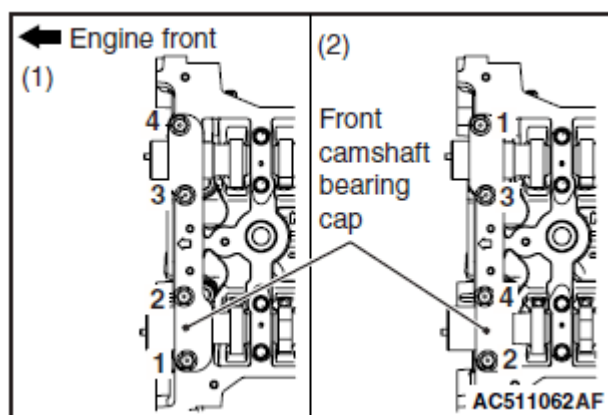

Fig. 50: Identifying Front Camshaft Bearing Cap Mounting Bolts Tightening Sequence
1. Install the front camshaft bearing cap to the cylinder head, and temporarily tighten the front camshaft bearing cap mounting bolts to the specified torque in the order (1 in **Fig. 50**).
2. Tighten the front camshaft bearing cap mounting bolts again to the specified torque in the order (2 in **Fig. 50**).